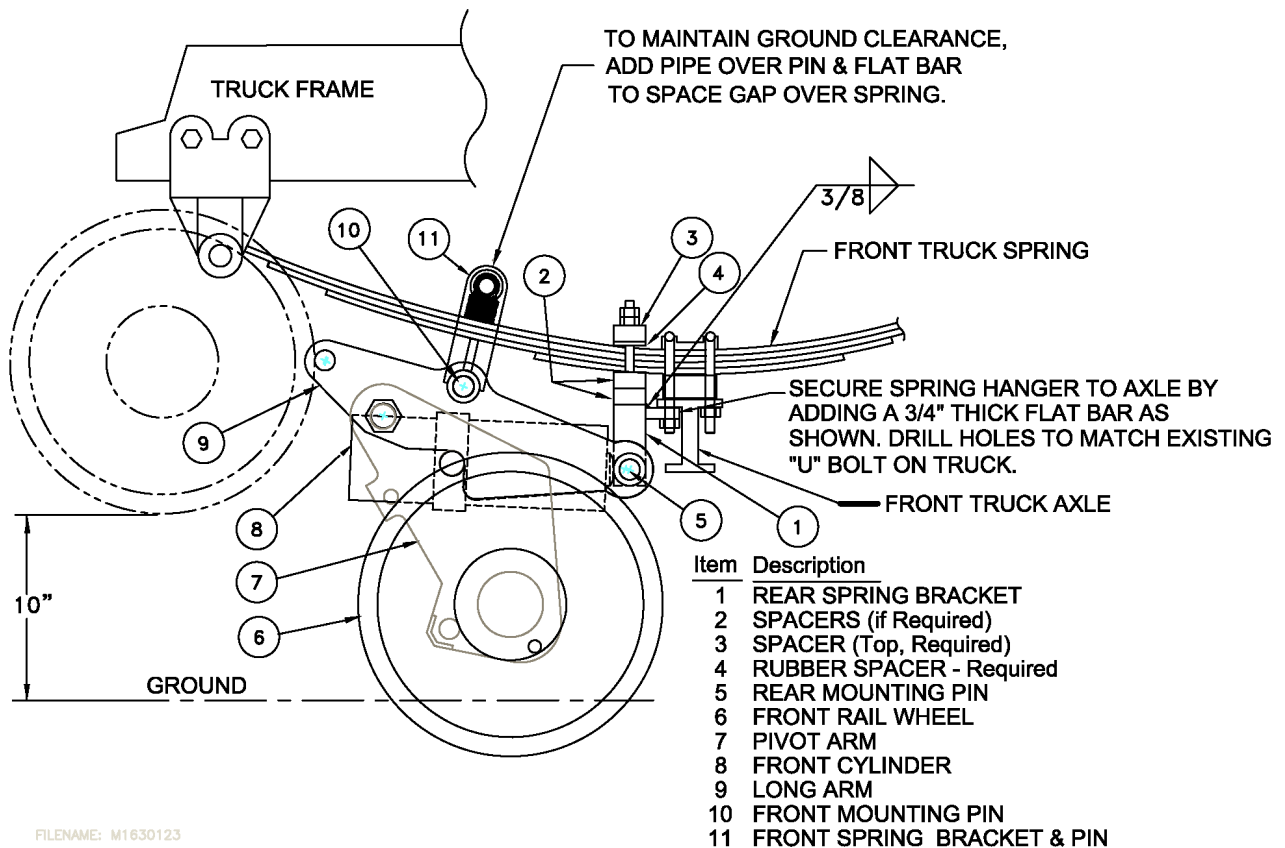

Figure 4.7.2.A Diagram of Key Components/Front Mounting Dimensions
Figure 4.7.2.A shows the individual parts of the installed front Railgear. Please familiarize yourself with these item descriptions as they will be used throughout this installation manual.
4. Weld spacers onto the front spring bracket above or below the leaf springs as shown in figure 4.7.2.A. This will restrict the amount of vertical travel while still allowing fore and aft travel as the suspension flexes.
6. Since the front mounting bracket is no longer pinned to a fixed point on the truck frame, a permanent attachment is to be made at the truck axle (see figure 4.7.2.A). The width of the flat bar depends on the distance between the rear spring hanger and the web of the truck axle "I" beam. The flat bar is to be welded securely to the spring hanger and attached to the axle "U" bolt as shown.